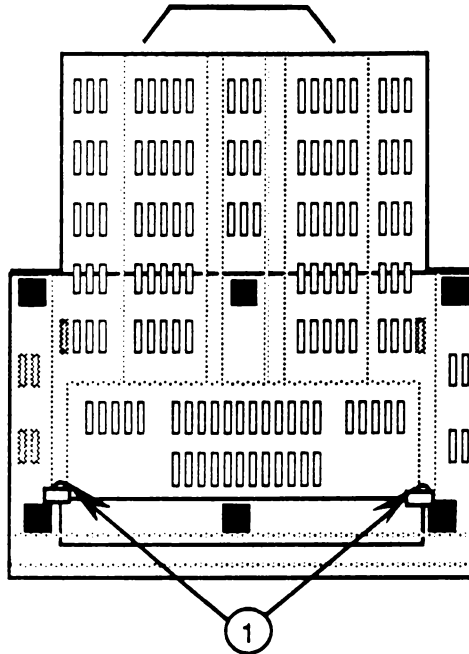

FIGURE 8
3. Remove the two screws (Figure 8, #1) from the bottom of the monitor.